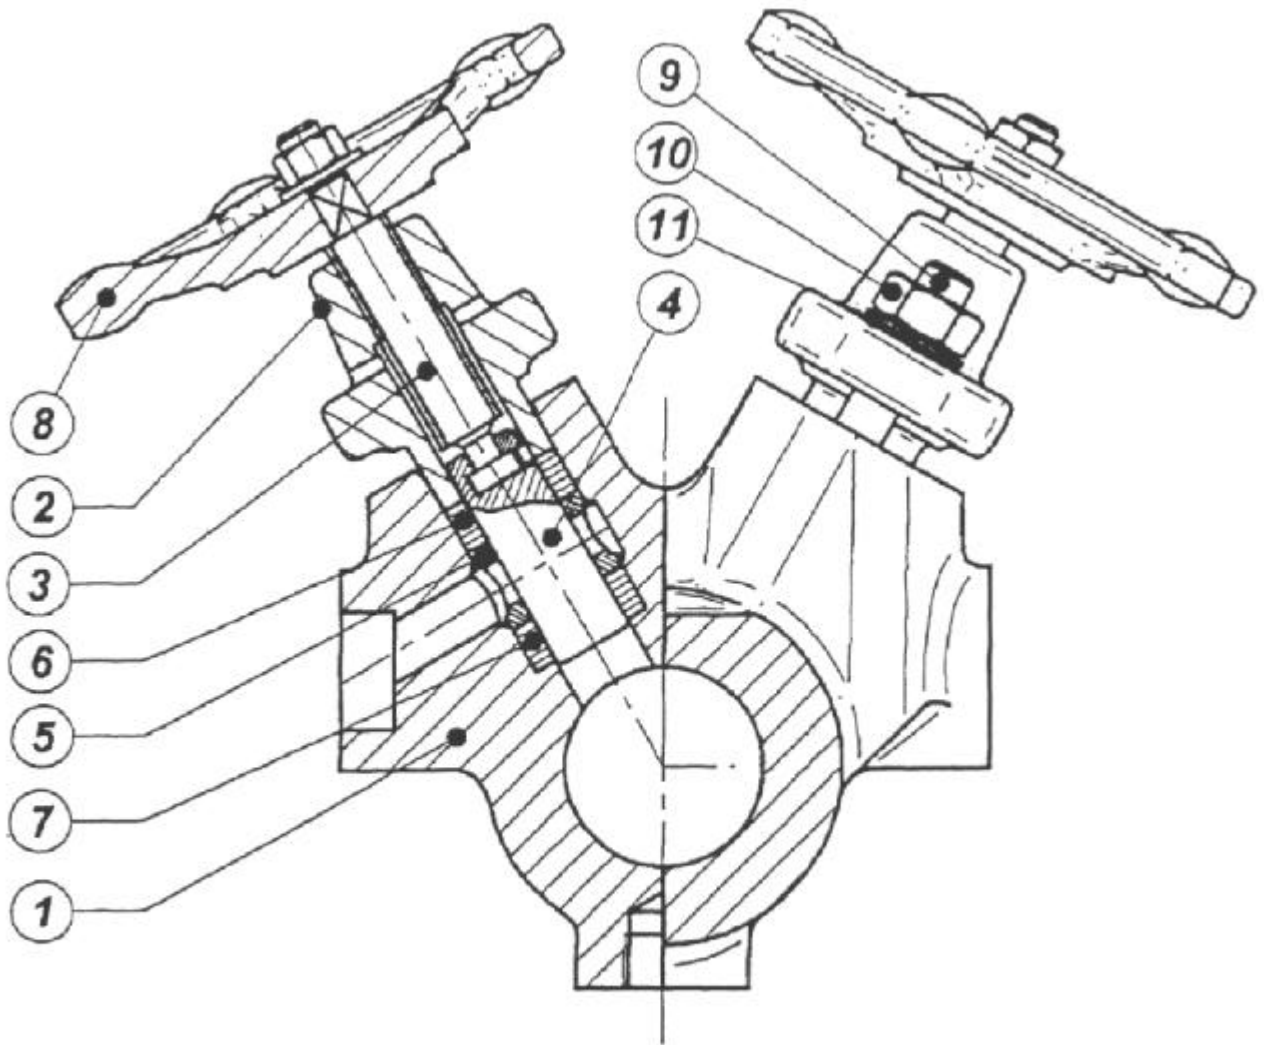

Fig. 3
-2.0 THE DOUGLAS ITALIA MANIFOLD (see FIG. 3)